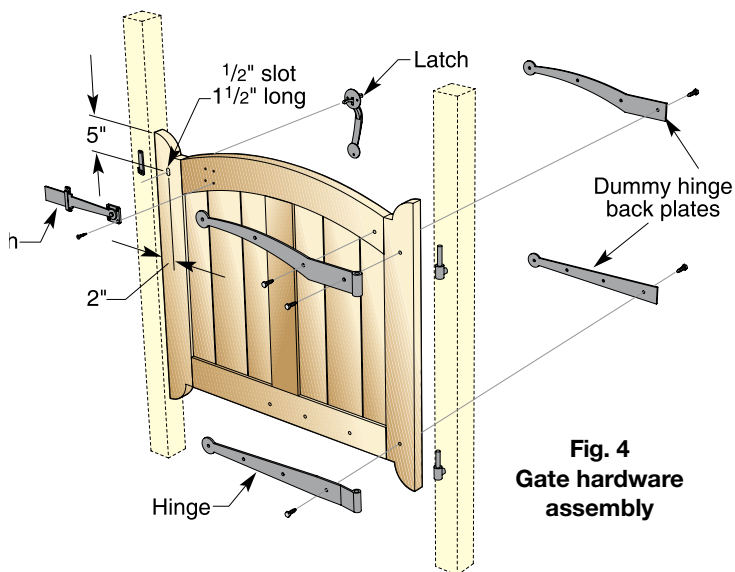

Fig. 4
1 TO INSTALL THE STRAP HINGES ON THE BOTTOM RAIL (B) AND TOP RAIL (C), strike a centerline for the bolt holes (the hinge does not have parallel sides), then drill and mount where shown in **Figure 4**. A dummy hinge plate on the gate's back face gives a similar appearance from both sides and works like a giant washer enabling you to tighten the hinge bolts to the gate.